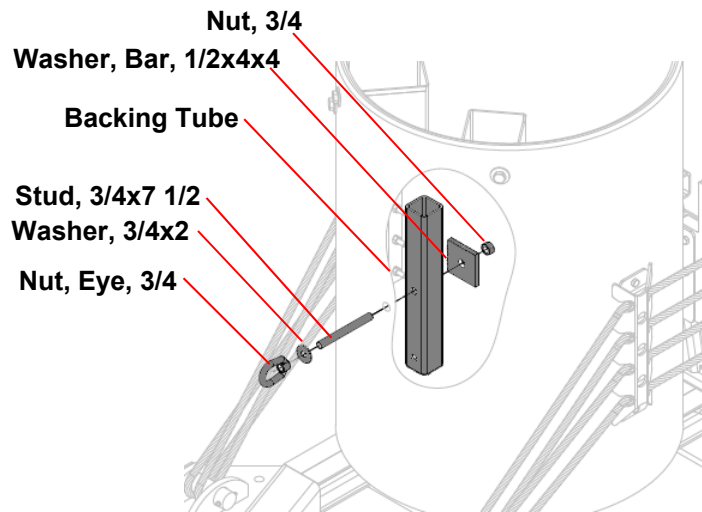

Figure 22 – Pullout Assembly
1. Attach the Pullout Assembly to Cylinder #1 (Figure 22).